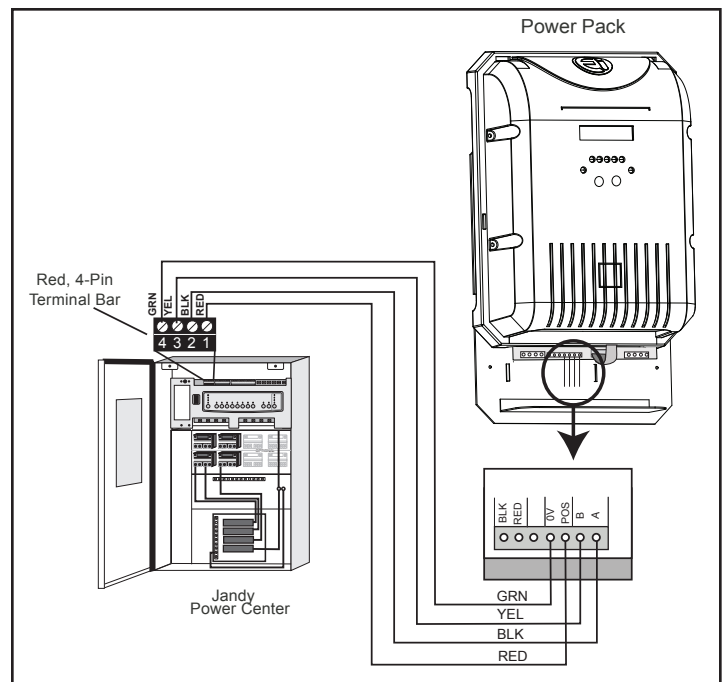

Figure 25. Communication Wiring between Power Pack and AquaLink RS Control System or PDA Network
6. The Jandy® AquaLink RS or PDA and power pack use a four (4) wire connection to communicate and can be wired up to 500 ft (152.4 m) apart. Any outdoor rated four conductor cable, minimum 22 AWG (0.33 mm2), can be used. Locate the appropriate screw terminals on the circuit board and wire the power pack to the AquaLink RS or PDA red 4-pin terminal bar (see Figure 25).